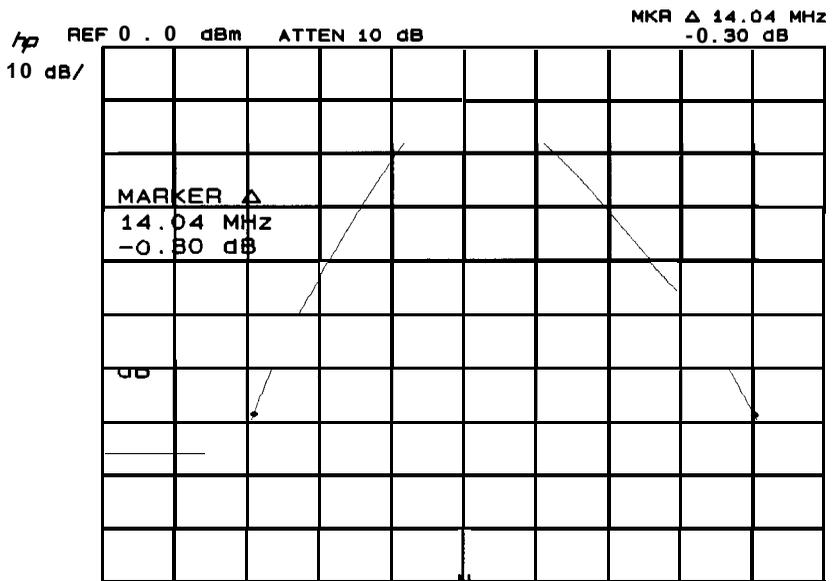

Figure 4-5. 60 dB Bandwidth Measurement
3. On the spectrum analyzer, press MARKER [NORMAL] and position the marker at the peak of the signal trace using the DATA knob. Press MARKER [Δ] and position the movable marker 60 dB down from the stationary marker on the positive going edge of the signal trace (the MARKER [Δ] amplitude readout should be -60.00 dB ±1.00 dB). It may be necessary to press SWEEP [CONT] and to adjust [CENTER FREQUENCY] so that both 60 dB points are displayed (see Figure 4-5).
5. Read the 60 dB bandwidth for the 3 MHz resolution bandwidth setting from the **MARKER** **(Δ)** frequency readout (see Figure 4-5) and record the value in Table 4-5.